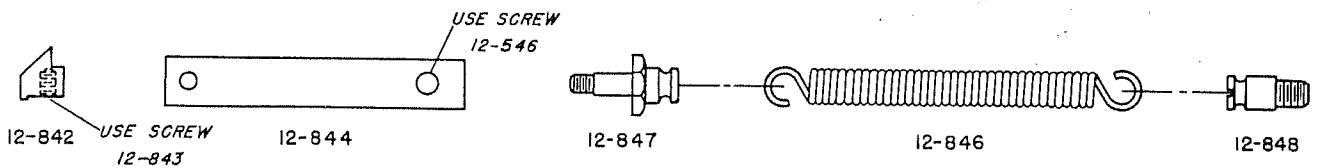

Figure 30—Push Back, Knife Holder and Knife, and Platform Parts (approximately 1/2 size)
**PARTS LIST FOR FIGURE 30****PART NO.                      PART NAME****Push Back**